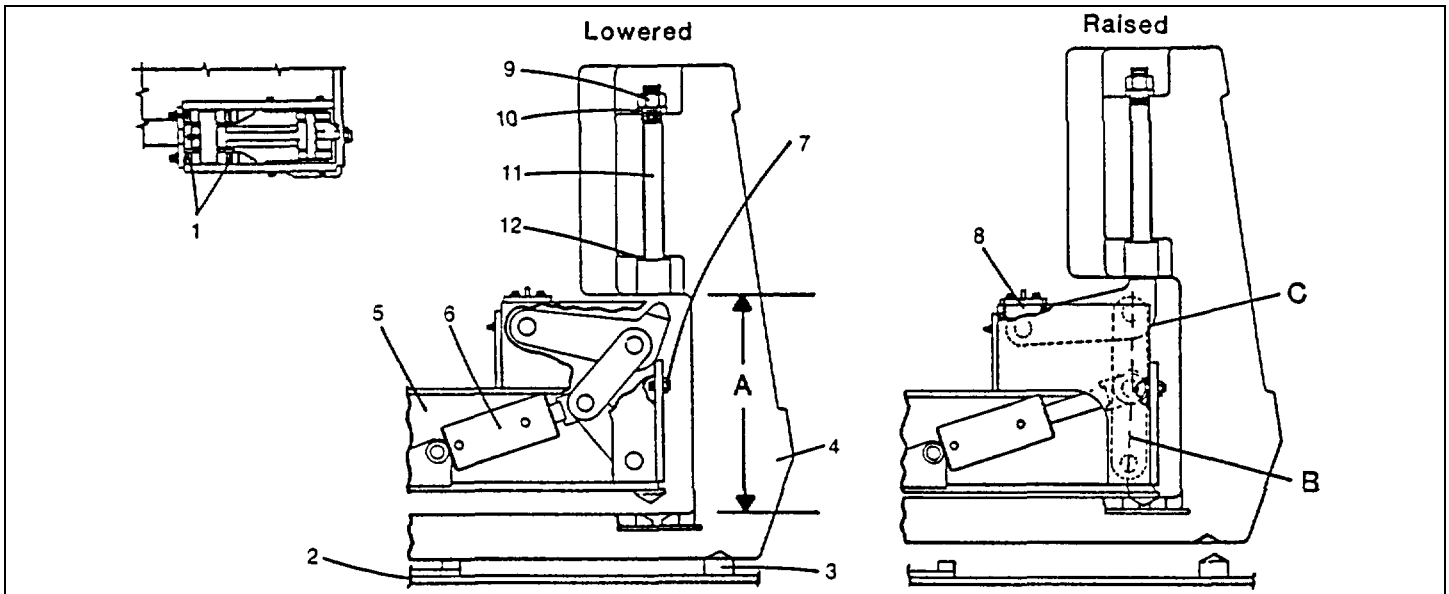

Fig. 4-5
4-8 Counterweight Remover (Fig. 4-5)
4-10 Preliminary Adjustment: (Must be made with counterweight off the machine.) (Fig. 4-5)
(c) Check dimension "A" in Fig. 4-5. Dimension "A" measures 26-1/2" (673.1mm) from the bottom of the adjusting screw (11) to the inside surface of the counterweight. Refer to Fig. 4-5. To set dimension "A", loosen the jam nuts (9). Next add or remove shims (12) on the adjusting screws
(11). After you set dimension "A", tighten the jam nuts (9).
4-11 Final Adjustment: (Must be made with counterweight on machine.) (Fig. 4-5)